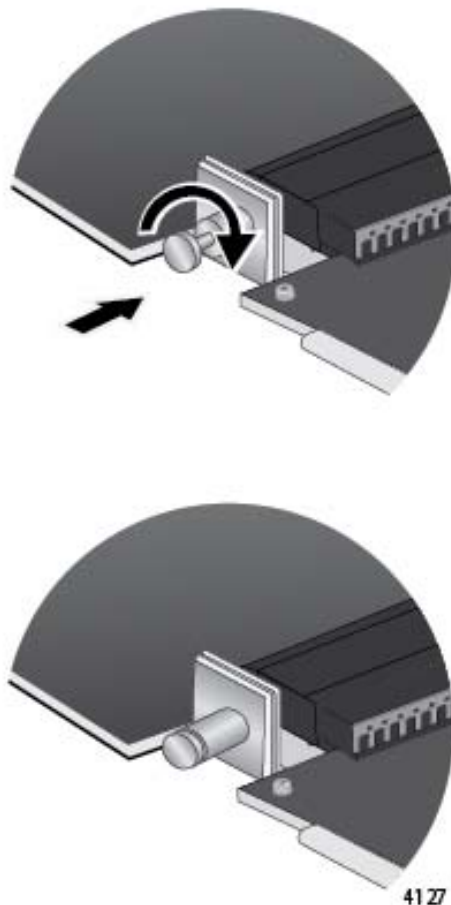

Figure 80. Releasing the Retaining Pin
11. Turn the retaining pin on the side of the line card one quarter turn to release it. Refer to Figure 80 on page 142.